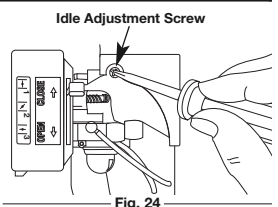

Fig. 24
The idle speed of the engine is adjustable. An idle adjustment screw is between the air filter cover and the engine starter housing (Fig. 24).
2. Release the throttle trigger and let the engine idle. If the engine stops, insert a small phillips in between the Air Filter Cover and the Engine Cover (Fig. 24). Turn the idle speed screw in, clockwise, 1/8 of a turn at a time (as needed) until the engine idles smoothly.